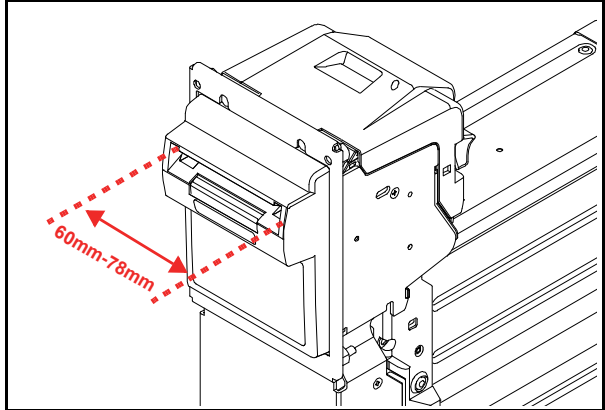

Figure 4 Automatic Centering Mechanism
- **Automatic Centering** – The Centering Mechanism (Figure 4) allows the unit to read Banknotes without using special Banknote Guides. It improves the overall acceptance rate.